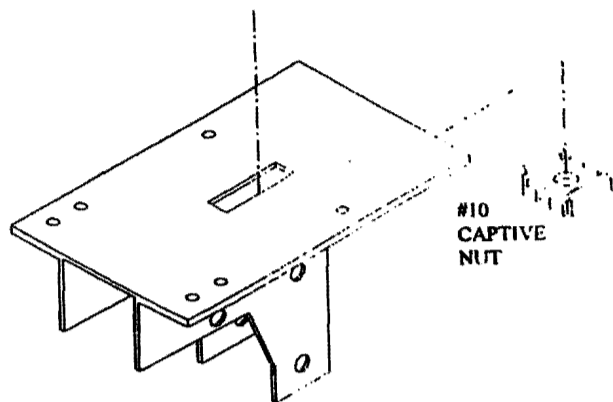

FIGURE 18
Step 16: See Figures 18, 19, 20 and 21. Place the bead receiver on the wall. Tape the joints of the bead receiver using fabric tape to protect the liner. Install captive nuts on four (4) oval top clips. Those oval top clips are mounted on the oval uprights on each end of the bottom rails. Install captive nuts on ALL non-oval top clips. Mount all top clips to the uprights.